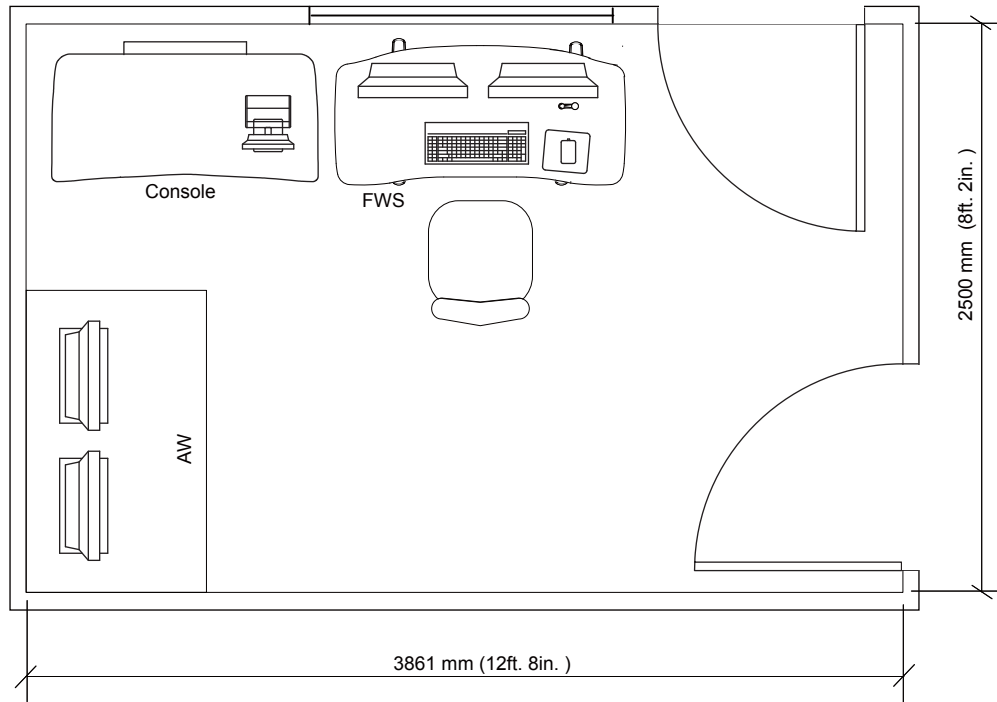

Figure 4-6 Recommended Control Room Layout with Freedom Workspace (FWS)
The console does not present an exposed live parts hazard. However, a minimum working space depth of 1219.2 mm (48 in.) and full width of the console be maintained at all times for service activity. Additionally sufficient space needs to be provided for repositioning of the console and side clearance for rear service access. Egress as well as other service requirement shall be considered when siting the console. See Figure 4-6 for a Recommended control room layout.
- Console with FWS: Console + Freedom Workspace Table (See Figure 4-6).